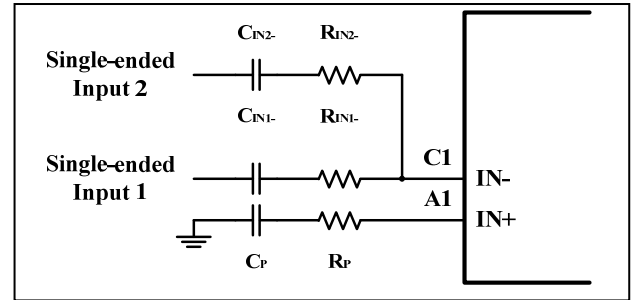

Figure 11 Summing Two Single-Ended Inputs
The gain and corner frequencies (f_{C1} and f_{C2}) for each input source can be set independently (see Equations (11) through (14) and Figure 11). Resistor, R_P , and capacitor, C_P , are needed on the IN- terminal to match the impedance on the IN+ terminal. The single-ended inputs must be driven by low impedance sources even if one of the inputs is not outputting an ac signal.